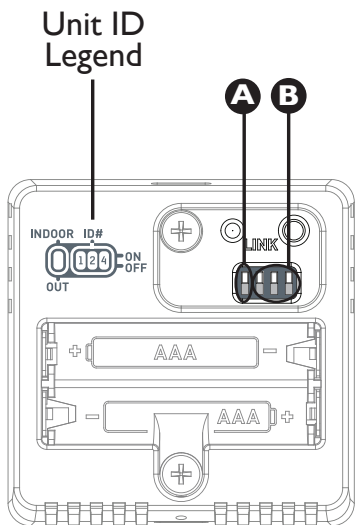

fig. 2
2. Configure the Sensor: (use fig. 2 as a guide)